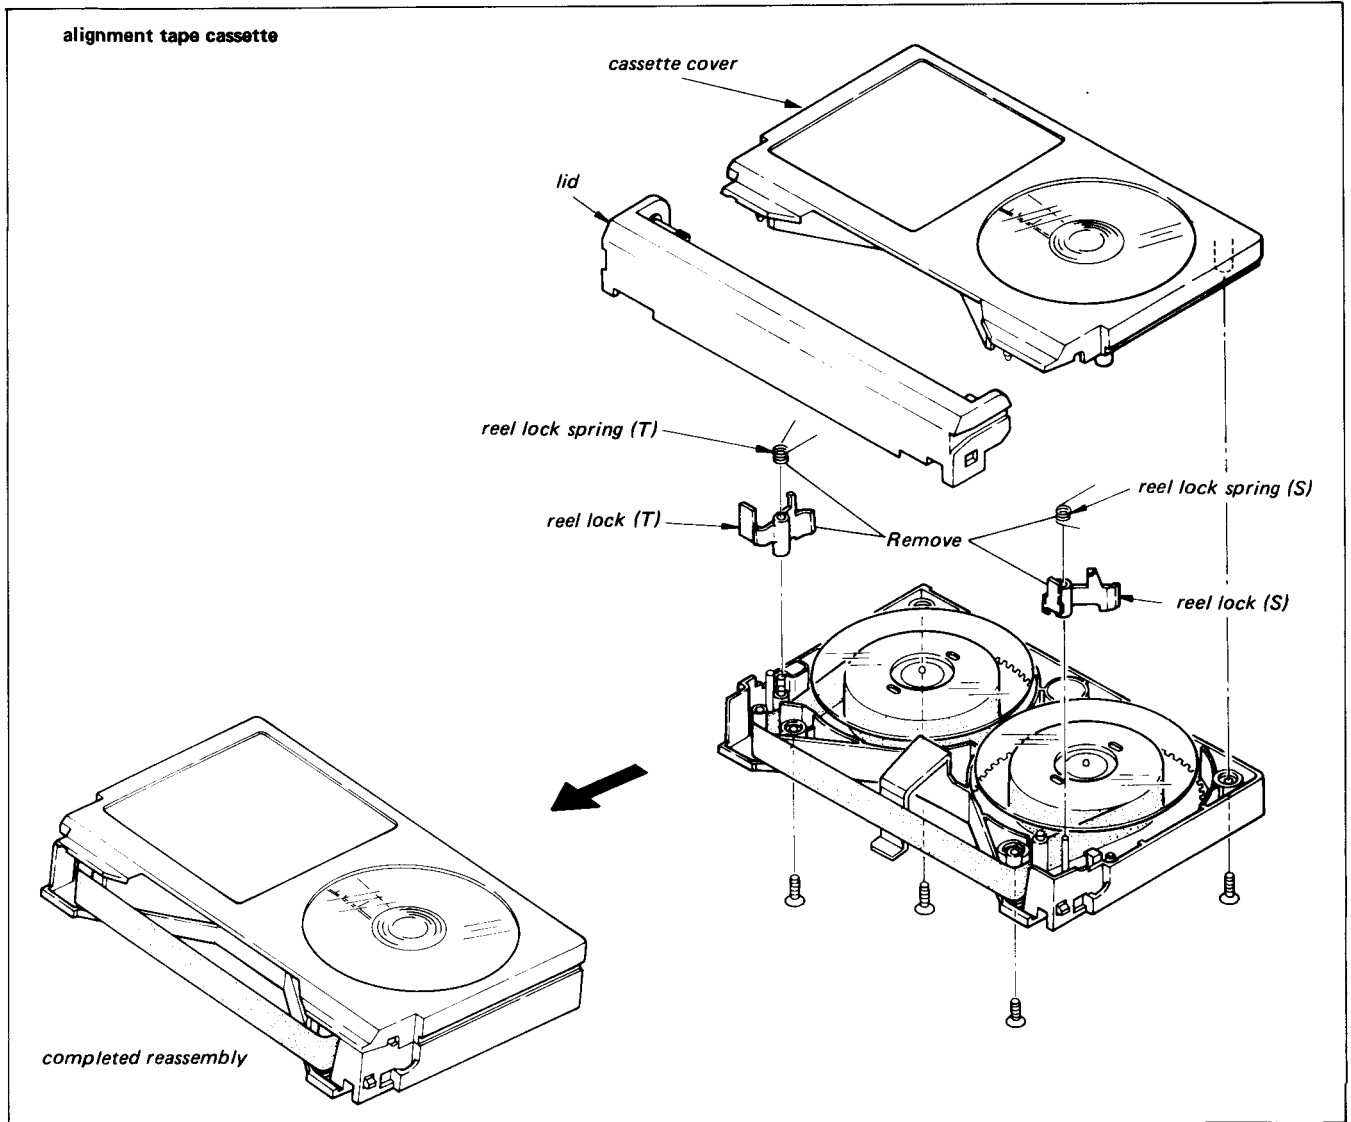

Fig. 4-1. Cassette Holder Remodeling
- 1) When modifying alignment tape KR5-2H, use caution not to dislodge the tape reels from their correct position. Refer to Fig. 4-1 and remove the four screws that secure the upper cover to the lower cover.